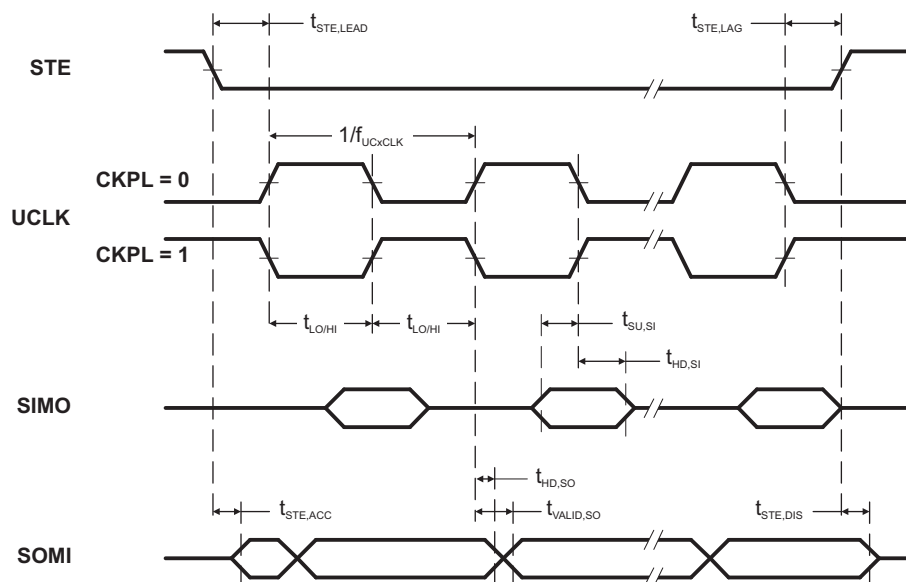
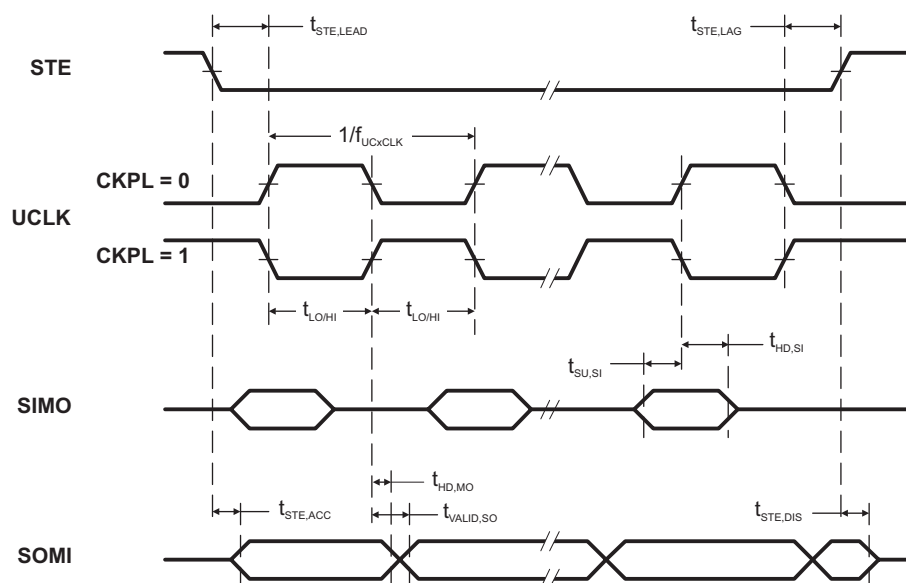

Figure 5-13. SPI Slave Mode, CKPH = 0
Figure 5-14. SPI Slave Mode, CKPH = 1
(see Figure 5-13 and Figure 5-14)
- (1) f_{UCXCLK} = 1/2t_{LO/HI} with t_{LO/HI} ≥ max(t_{VALID,MO(Master)} + t_{SU,SI(USCI)}, t_{SU,MI(Master)} + t_{VALID,SO(USCI)}). For the master parameters t_{SU,MI(Master)} and t_{VALID,MO(Master)}, see the SPI parameters of the attached slave.
- (2) Specifies the time to drive the next valid data to the SOMI output after the output changing UCLK clock edge. See the timing diagrams in Figure 5-13 and Figure 5-14.
- (3) Specifies how long data on the SOMI output is valid after the output changing UCLK clock edge. See the timing diagrams in Figure 5-13 and Figure 5-14.